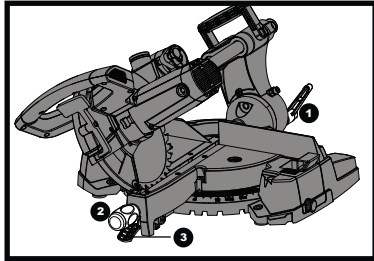

Fig 33
- 1) Loosen the bevel lock handle (1) and position the cutting head at the desired bevel position. Lock the bevel lock handle.
- 2) Loosen the mitre handle (2). Press down the positive stop locking lever (3) and position the table at the desired angle. Release the positive stop locking lever and lock the mitre handle. (See fig. 33)